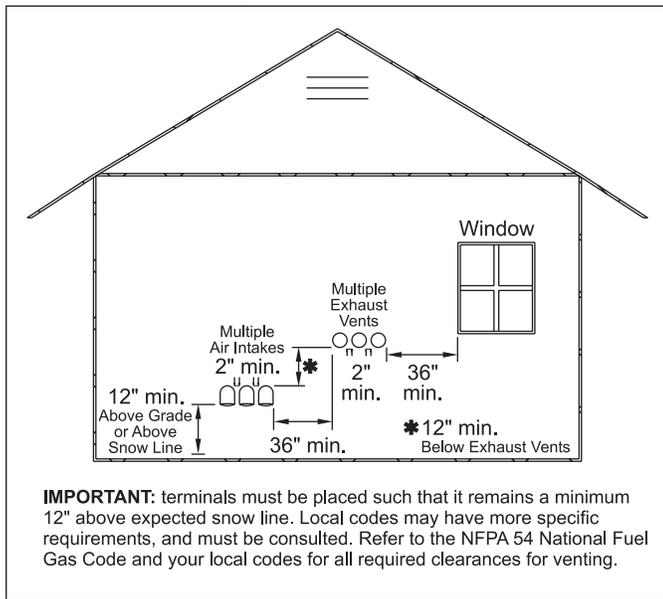

Figure 8. - Multiple Side-Wall Terminals, Air and Vent
As a result, two items listed in the Unpacking section (Figure 8) are **not included** with NeoTherm units for Canada (underlined):
6. Multiple vent kits should be installed such that the horizontal distance between the outlet group and the inlet group is 36" (90cm). (See **Figure 8**.)